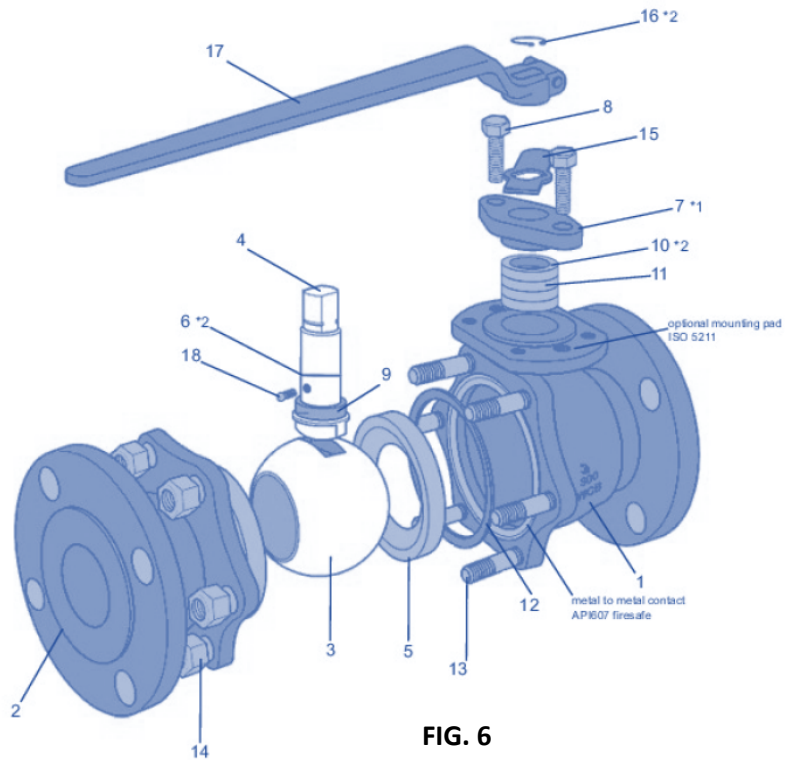

FIG. 6
Following is a typical explosion view of a floating 2 pieces ball valve. The number of parts will slightly vary in each size & class, but the principal components are as per figure 6 below. Refer to as-built drawing for actual bill of material.
- (1) Torques shown are for A193 B7/B16/B7M/B8/B8M and A320 I7/I7M/B8/B8M.
- (2) Torque tolerance $\pm 10\%$.
- (3) For temperatures above 750°F (400°C) use 75% of the torque values.
- (4) Above torque values are with the bolts lubricated.
- (5) Values above are based on 30,000 psi (206.85 Mpa) bolting stress and lubricated with heavy graphite and oil mixture or a copper based anti-seize grease.
- (6) Do not exceed by more than 25% of values stated when emergency torqueing is required.
- (7) All bolts shall be torqued in the pat tern as shown in Figure 6 over page to ensure uniform gasket loading
- (8) Optimum torque can vary depending on type of body gasket but do not increase torque more than 10% above those shown.
- (9) Consult Trust Valves for other bolt material.
- (10) Most B8M and B8 bolts are class 1 so do not assume class 2 unless you are sure.